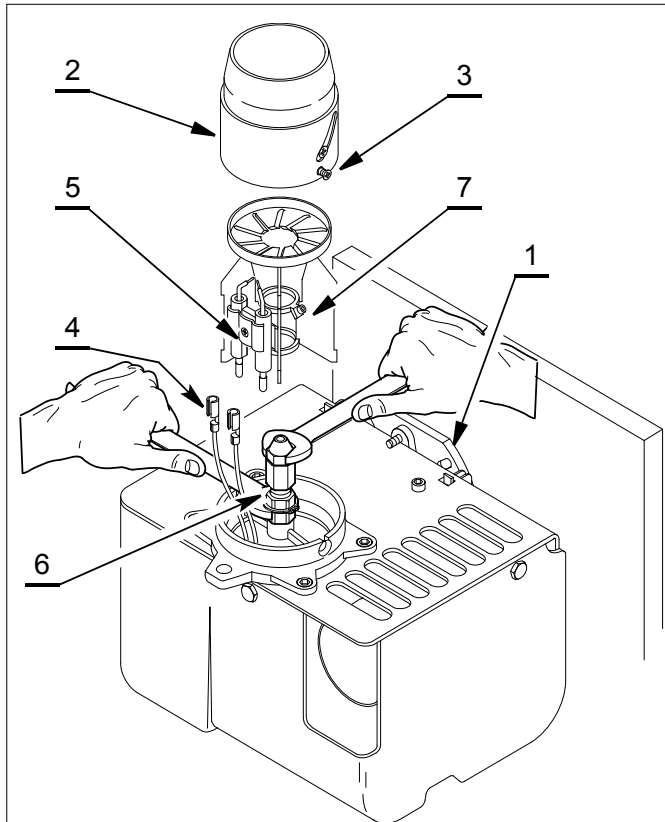
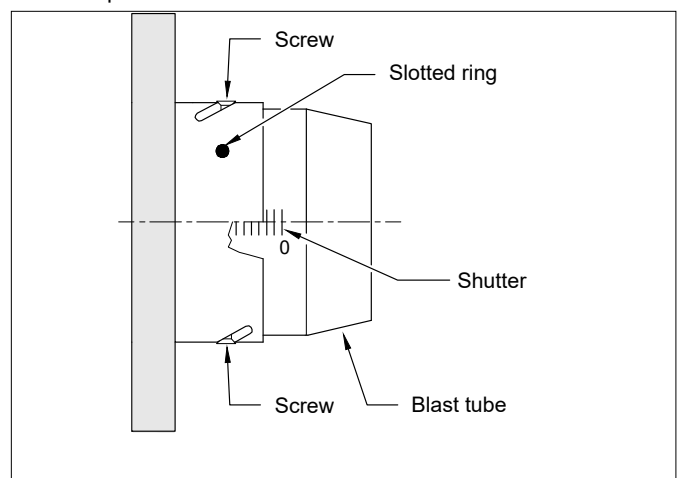

Figure 10-6: Riello RDB 3.2 burner head, diffuser and nozzle holder
Figure 10-8: Riello RDB 3.2 combustion head adjustment
1. Remove the burner head. Refer to Figure 10-6. Loosen both fixing screws (3) and remove head from burner (2).
3. If the nozzle needs to be replaced - Remove the diffuser/ electrode assembly. Refer to Figure 10-6.
- Loosen the diffuser clamp screw (7) and remove the diffuser/electrode assembly from the nozzle holder (6).
- Disconnect both ignition leads (4) from the electrodes.
7. Refer to figure 10-6. Slide diffuser (5) along the nozzle holder (6) until hard against the stop and tighten diffuser clamp screw (7).
9. Re-fit the burner head. Refer to Figure 10-6.
- Tighten the two screws (3) to secure the head (2) in position on the burner.
- In this case the head is set to '2' (i.e. on the 4th line). Refer to Figure 10-8.
- Loosen the two screws in the curved slots in outer ring of the head (NOT the two head fixing screws). Refer to Figure 10-8.